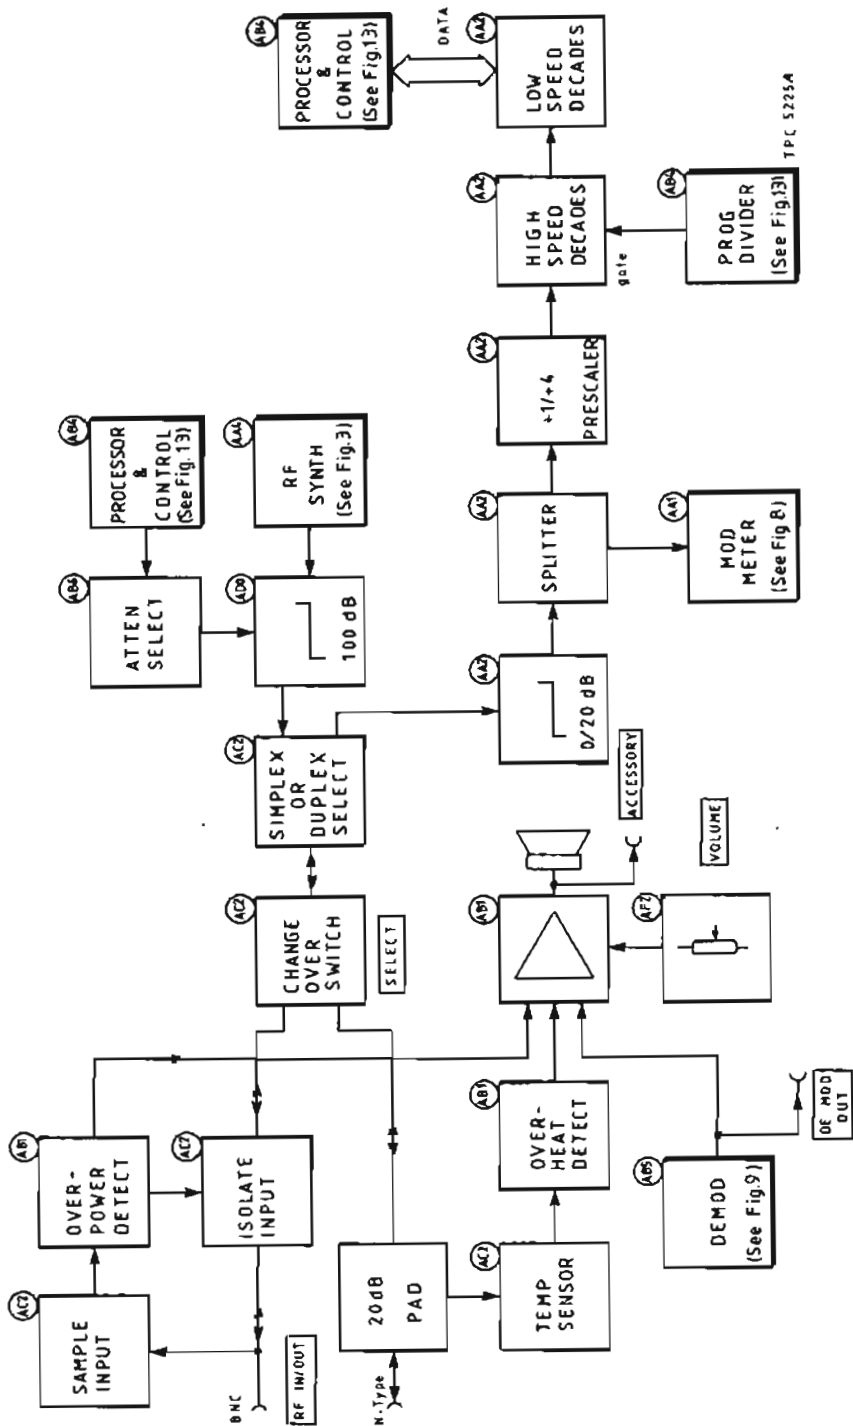

Fig. 2 Block diagram of input/output & r.f. counter (showing main functions of boards)
3. The r.f. inputs and outputs are connected to the RF IN/OUT b.n.c. and N-type sockets (see Fig. 2). For the b.n.c. socket, the input is sampled on AC2 and if excessive power is detected on AB1 the input is isolated by AC2 in order to protect the signal generator. No such protection is required for the N-type socket since it is directly connected to a 20 dB pad. Excessive power at this socket results in overheating which is sensed on AC2 causing the detector on AB1 to inform the processor which flashes a warning notice on the screen. For excessive power at either input, an audible warning is generated from the audio amplifier on AB1. This warning overrides the VOLUME CONTROL on AF2. A change-over switch on AC2 responds to the SELECT key for simplex operation and defines the signal paths for 1 port and 2 port duplex operation. Signal generator output from the r.f. synthesizer is via a 10 dB attenuator on AA4 and then via a 100 dB attenuator which is switched in 20 dB steps by drivers on AB6. Signal input is fed from a splitter to the modulation meter on AA1 and to the r.f. counter on AA2. The signal to the counter is fed via a 20 dB pad to a prescaler which is switched in for frequencies above 200 MHz. The counter is gated, depending upon frequency range, by the divider on AB4. The resulting frequency measurement is fed out on the data bus to processor board AB4.